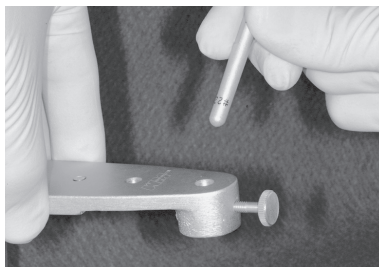

Figure 19
2. Loosen and remove the incisal guide pin. (Figure 19)